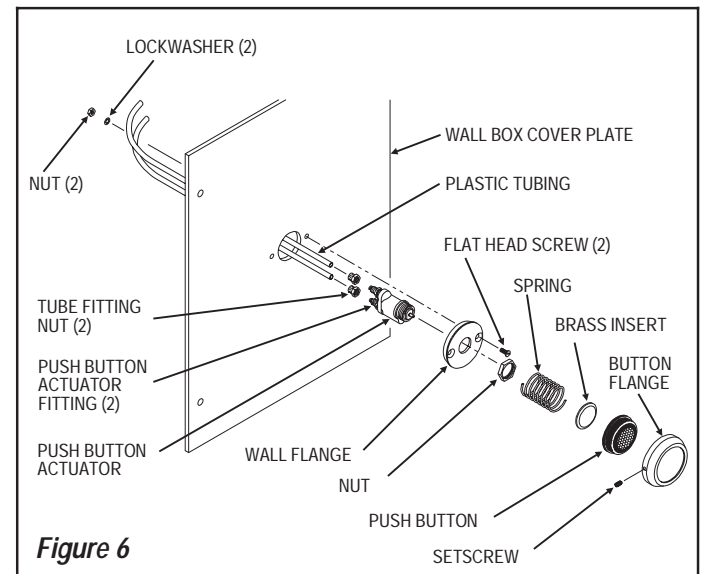

Figure 6
**Note:** The HY-33-A Fixture Wall may be installed directly onto fixture wall where access behind wall is available. If rear access is not available, HY-33-A may be installed onto a Sloan Easy Access Wall Box Assembly. Parts for both installations are included with the HY-33-A Push Button (refer to Figure 6).